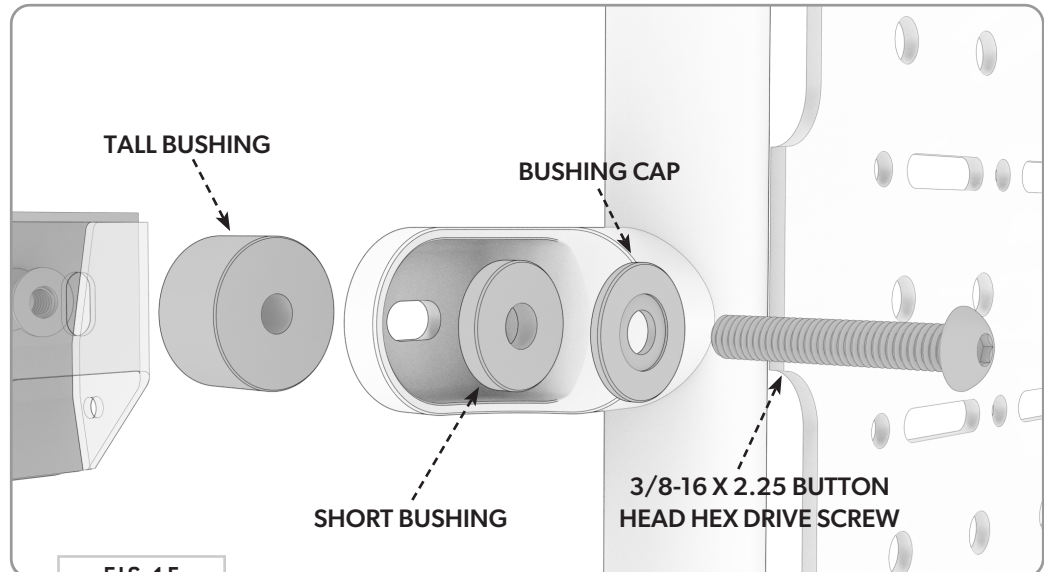

FIG 15
**4.2 Third Mount:** Insert the Bushing Assembly through the Third Mount Bracket Hole to center the Platform and secure using a 3/8" Flat Washer and Nylon Locknut. (FIG 15).